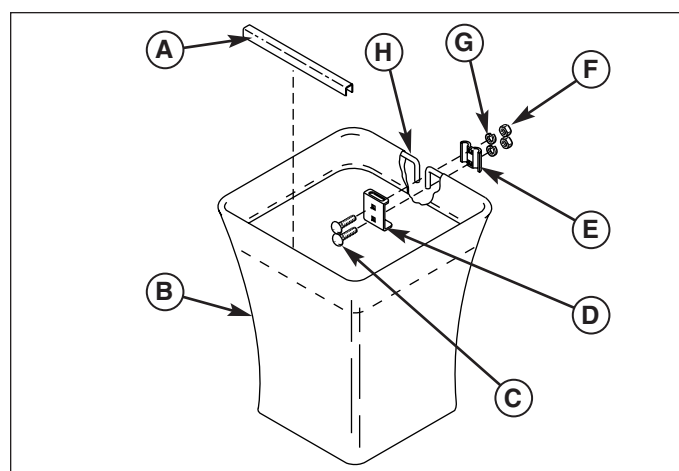

Figure 6. Assemble Catcher Bags
1. See Figure 6. Insert the wire hoop (H) through the cloth bag (B).
2. Install the clamp (E) and hanger bracket (D). Secure with two 5/16-18 x 3/4 carriage bolts (C), lockwashers (G) and nuts (F).